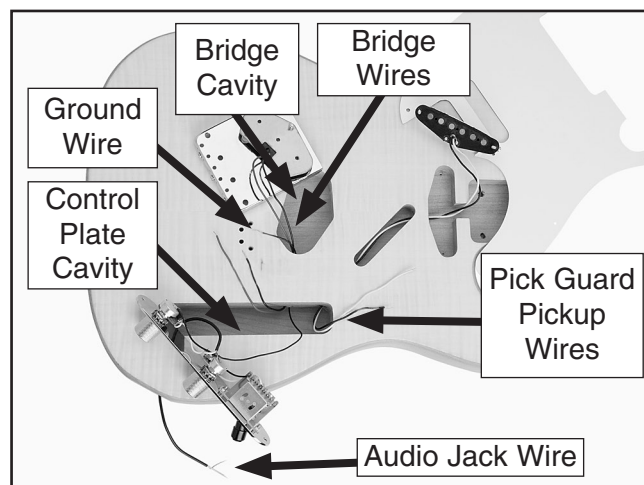

Figure 23. Wires threaded through body.
- Thread the pick guard pickup and bridge pickup wires through the channels and holes in the control plate cavity as shown in **Figure 23**. (Also, refer to the **Wiring Diagram** on **Page 29** and the **Electrical Photos** on **Pages 27-28**.)
- Thread the ground wire through the hole in the control plate cavity and into the bridge cavity (**Figure 23**).